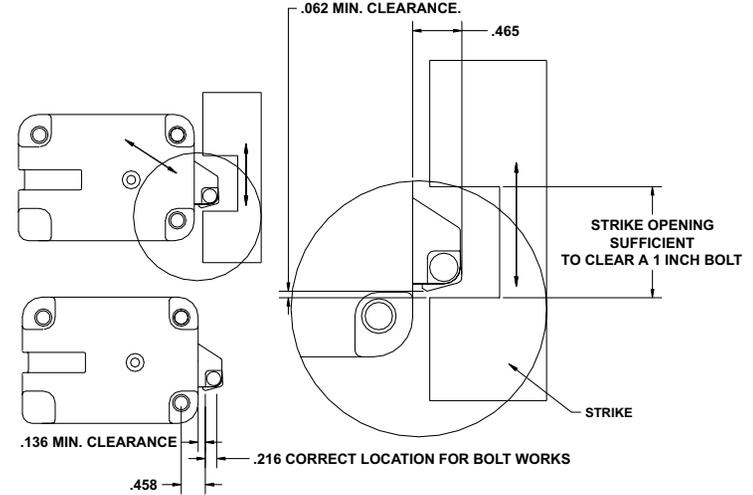

Figure 2 - Square Nose Slide Bolt Clearances and Positioning
2. Place the protective tube over the tube retainer on the lock case. (Figure 2)
4. When mounting the lock unit (i.e., integrating it in a boltwork), make sure that the lock bolt has clearance to freely move to its end positions and that the shifting force works only in the axial direction (direction of movement). Lateral forces should not be exerted on the lock. A minimum clearance of 1/16" (1.6mm) is required between the bolt roller/nose and the inside edge of the strike. Refer to Figures 2 and 3.
1. Ensure that the cable lays in the cable channel as you mount the lock case assembly to the inside of the container door using the three 1/4-20 (or M6-1) screws (Torque 25-30 lbs., 2.8-3.4 N-M), allowing 1/16" (1.588mm) clearance between the lock bolt and the container locking bar. (See Figure 2 for proper clearances and positioning when installing a square nose slide bolt. See Figure 3 for proper clearances, strike types and contact points when installing a roller slide bolt.)